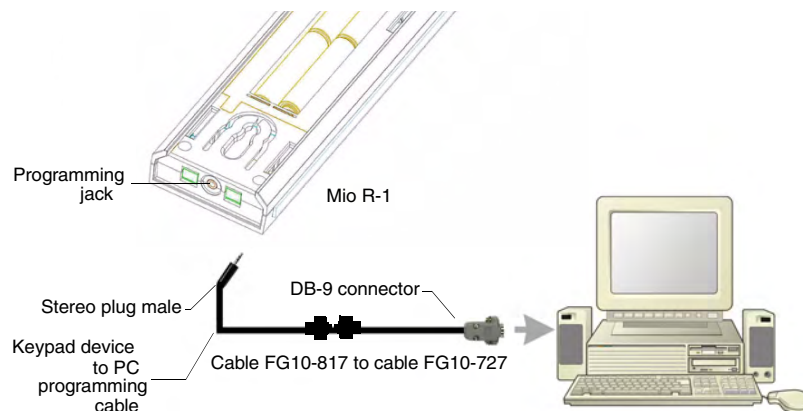

FIG. 3 Connecting The Keypad Device to Your PC
1. Connect the Mio R-1 to your computer via the programming jack (FIG. 3).